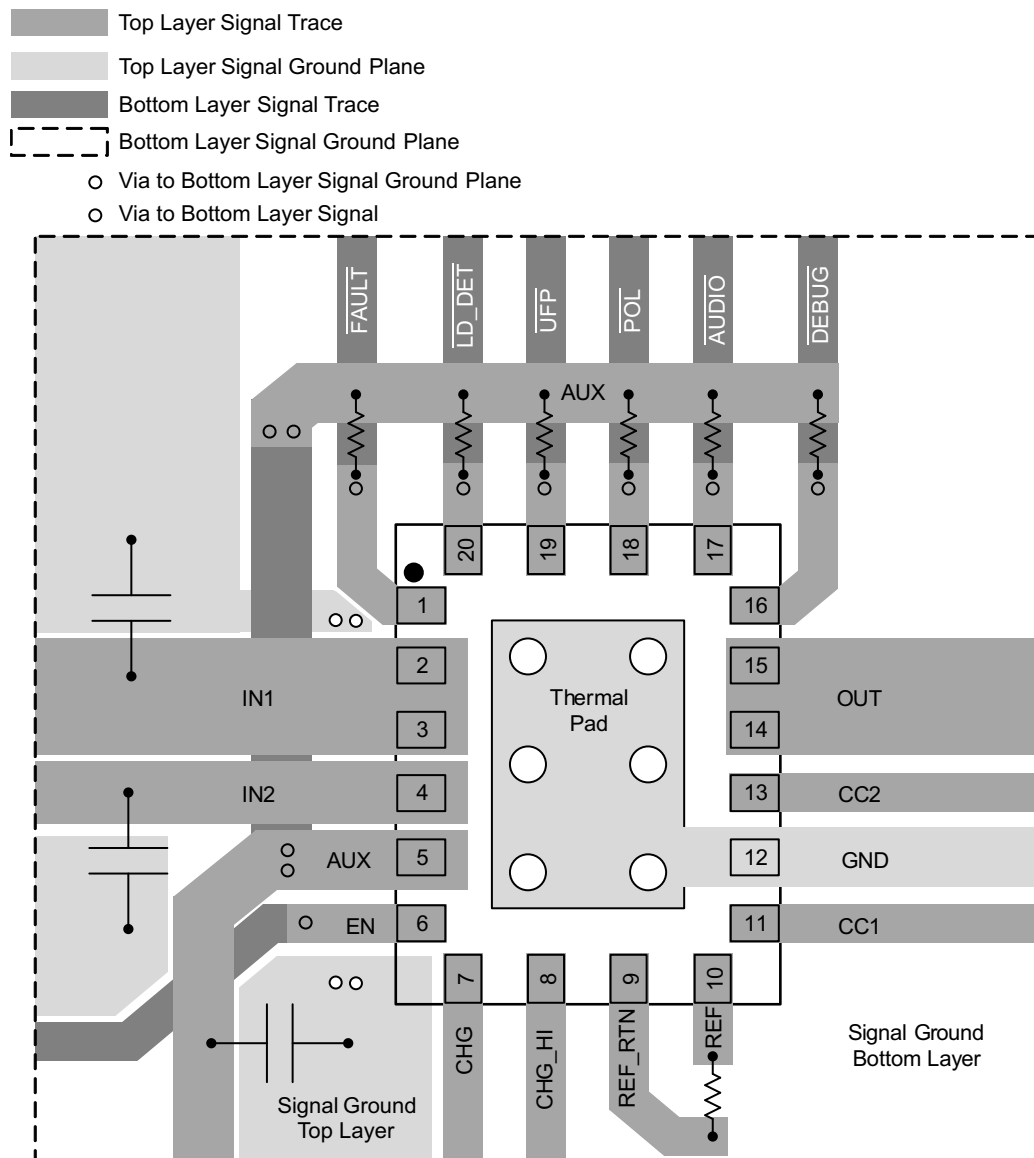

Figure 29. Layout Example
- Care must be taken to minimize the loop area formed by the bypass capacitor connection, the IN1 pin, and the GND pin of the IC. See Figure 29 for a PCB layout example.
- The REF_RTN pin should be isolated from the GND plane. See Figure 29.